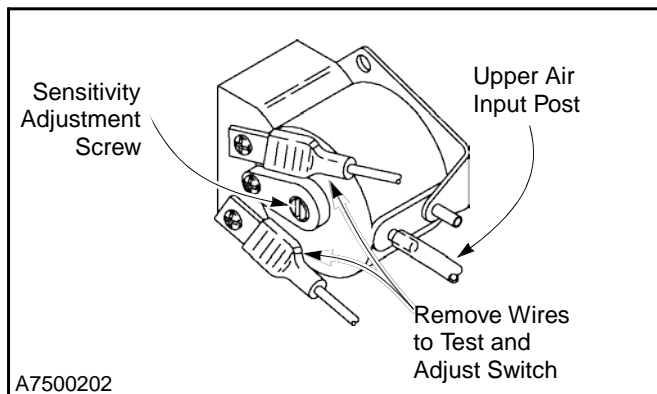

Figure 33
1. Remove the wires from the contact terminals and attach an ohmmeter across the two terminals. (See Figure 33)
2. To adjust the switch, turn the small adjusting screw, located on the face of the switch, clockwise or counterclockwise until continuity is achieved. Then turn the screw two turns clockwise for final adjustment. Adjusting the screw clockwise decreases sensitivity, counterclockwise increases sensitivity. (See Figure 33)